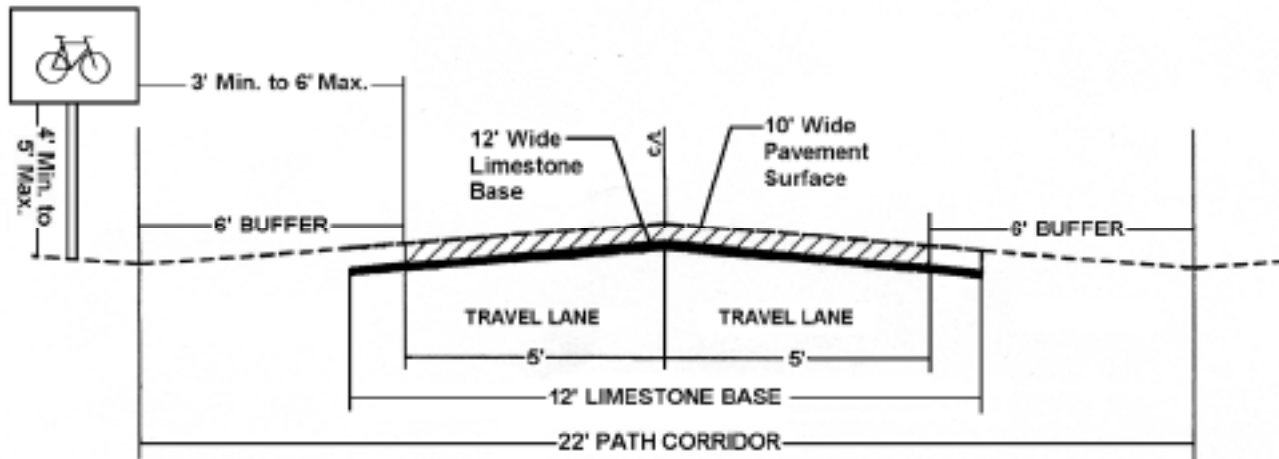

Figure 1: Desirable Multi-Use Trail Cross-Section
1. The trail corridor shall be at least 20 feet wide as illustrated in Figure 1.
2. The trail corridor shall accommodate a path width of a 10-foot base and an 8 foot paved surface as illustrated in Figure 1.
4. Install and compact 6 inches of 3/4 inch crushed limestone traffic bond, to a 10-foot width as illustrated in Figure 1.